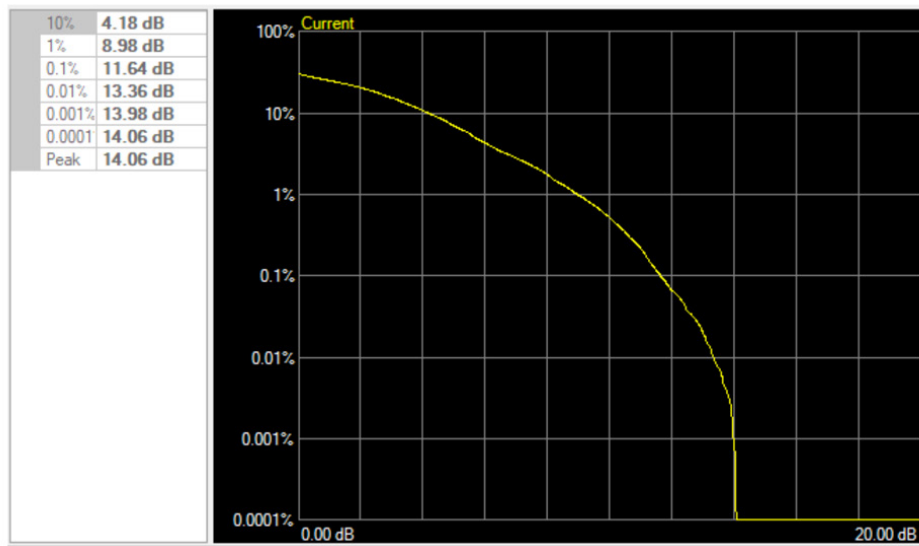

Figure 2: 5G CCDF Plot/ PAR Test Model 2a
3rd Generation Partnership Project (3GPP) is the standards development body for mobile communications. Successive generations 3G, 4G to the current 5G chronicle this expansion of spectrum bandwidth. 3GPP defines the test models (TM) or modulation profiles for testing linear performance of user equipment (UE) and base station (BS), and by extension the devices used in those systems. 5G modulation schemes for both uplink and downlink range from channel width of 5 to 100MHz with peak to average ratios (PAR) up to 14dB. See Figure 2 below.